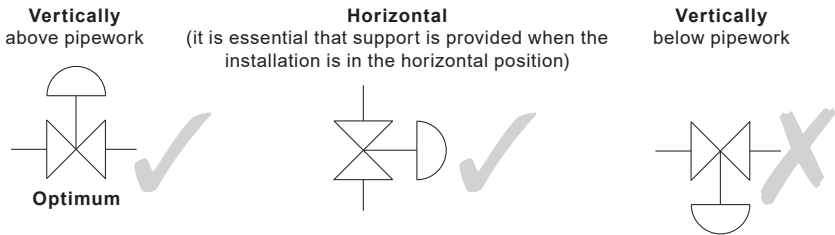

Fig. 2
**Caution:** Sling eyes (X, see Figure 2) are **not to be used** for lifting an actuated valve assembly. Sling eyes can only be used to stabilise the assembly. Suitable support of the valve and actuator will be required.
The actuators should be installed in such a position as to allow full access to both the actuator and the valve for maintenance purposes. The preferred mounting position is with the actuator and valve spindle in the vertical position or horizontal to the pipework (it is essential that support is provided when the installation is in the horizontal position), see Figure 2).